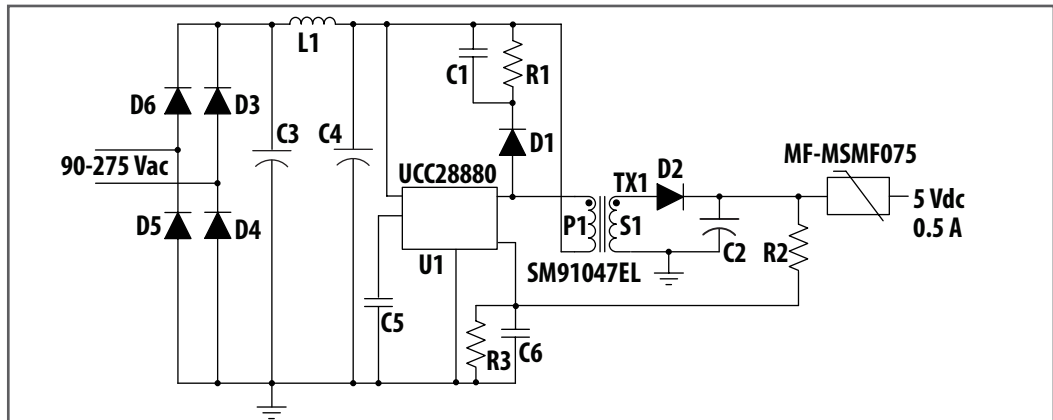

Figure 2. | Circuit Diagram of Offline Non-Isolated Flyback Converter
2. Sensitivity to ambient temperature, leading to significant derating. The resistance of a resettable fuse at 100 °C can be 220 % of its nominal value at 25 °C. However, high temperature polymer PTCs, are now available and exhibit an increase of 150 % of their resistance which is comparable to typical high power MOSFETs at 100 °C as shown in figure 2.